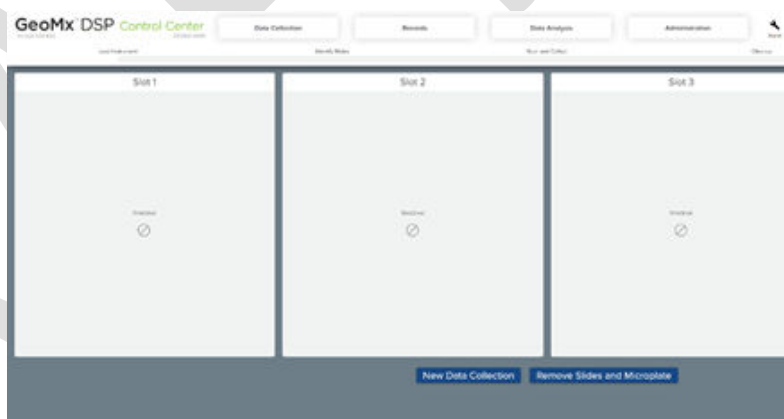

Figure 4: Collection Complete idle state
4. Click **OK**. Now, the instrument is at the Collection Complete idle state (Figure 4).